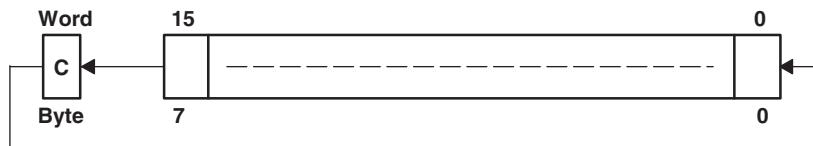

Figure 4-38. Destination Operand—Carry Left Shift
Description	The destination operand is shifted left one position as shown in Figure 4-38 . The carry bit (C) is shifted into the LSB, and the MSB is shifted into the carry bit (C).